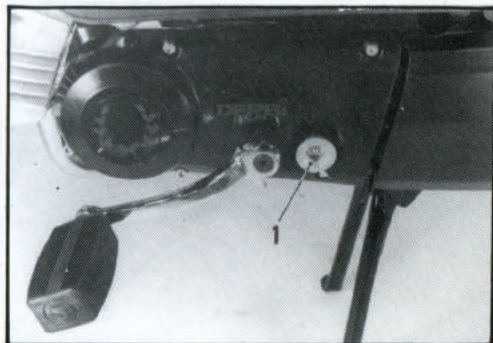

Fig. 6
The easy-operating manual push-button (1) (Fig. 6) on the left side of the engine, allows easy starting and instant conversion from moped to bicycle in accordance with international standards.